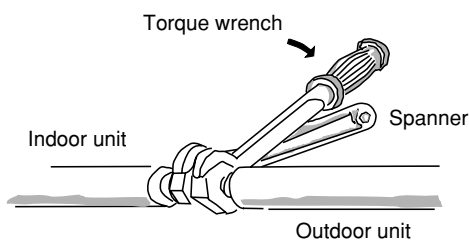

Fig. 4-6
- (1) Tightly connect the indoor-side refrigerant tubing extended from the wall with the outdoor-side tubing.
- (2) To fasten the flare nuts, apply specified torque as at right:
- When removing the flare nuts from the tubing connections, or when tightening them after connecting the tubing, be sure to use 2 monkey wrenches or spanners as shown. (Fig. 4-6)